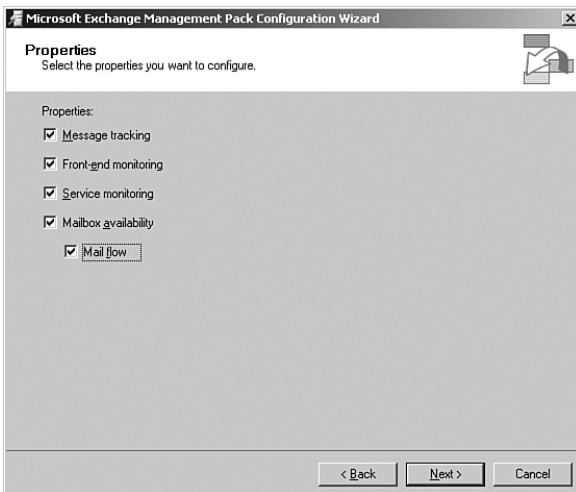

FIGURE 17.4 Custom configuration with the Microsoft Exchange Management Pack Configuration Wizard.
**Configuring Servers** The configuration wizard lets you select servers to configure based on the administrative groups you want to monitor. The wizard automates the process to configure advanced monitoring for front-end servers, message tracking, service monitoring, mailbox availability, and mail flow. Figure 17.4 shows the details of the wizard configuration screen.